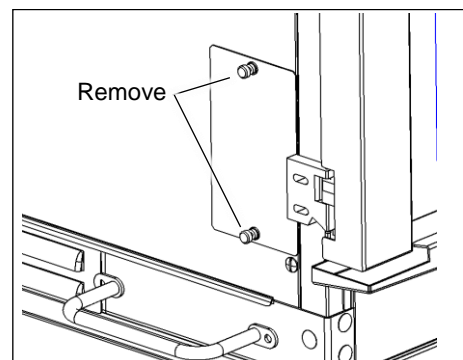

Figure 6-1
3. Remove the light access panel located on the left side of the rotisserie by loosening the thumb screws (by hand or using a screwdriver) (Figure 6-1).